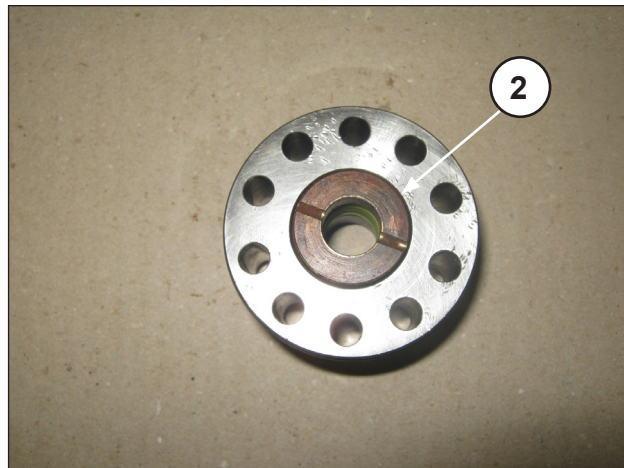
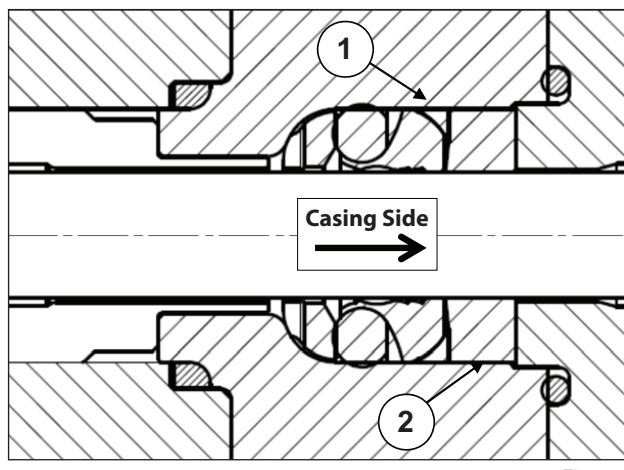
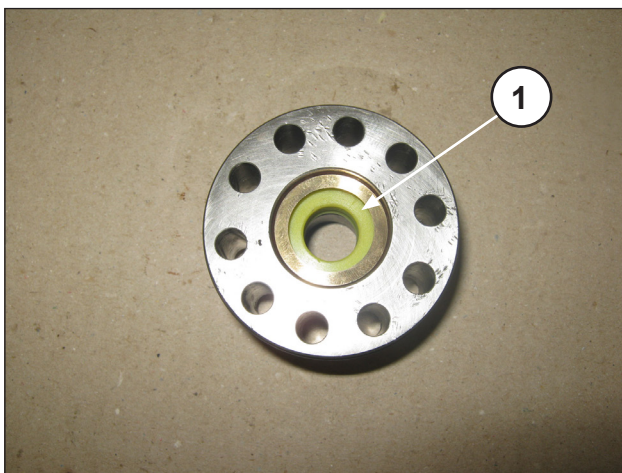

Fig. 46
Fig. 47
Fig. 45
- B) On the internal diameter, grease must be applied paying great attention to filling all the pockets between the sealing lips as shown in Fig. 45.
- Insert the anti-extrusion ring ① and the gasket bush ② arranged as shown in Fig. 45, Fig. 46, Fig. 47.
The gasket bush ③ must be introduced into the support with the outlets facing outwards (casing side) as shown in Fig. 46 and in Fig. 47.